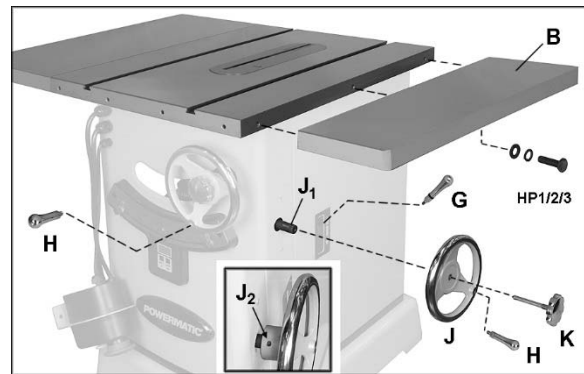

Figure 6-3: installing accessories
See Figure 6-3.
1. Remove tape from around shaft to expose threads and shaft key (J1, Figure 6-3).
5. Install locking knob (K, Figure 6-3) and handles (H). Use wrench on flat of handles to tighten against handwheels.